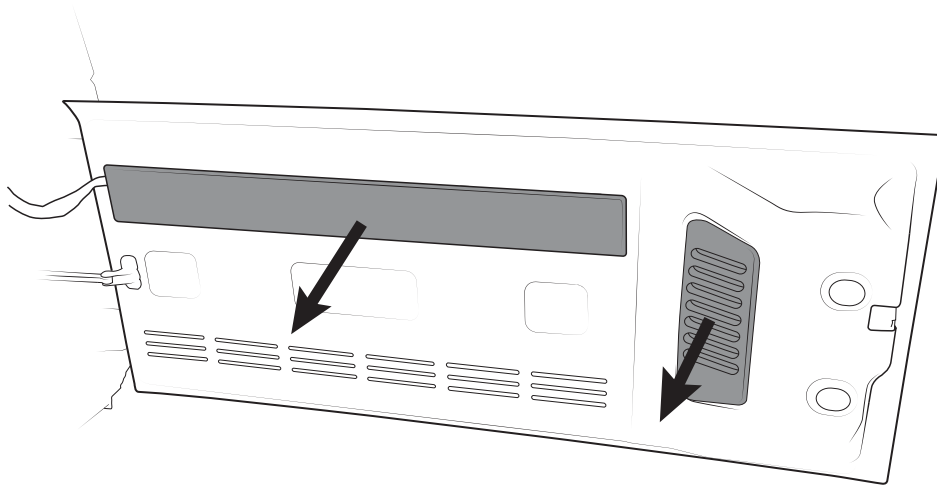

Figure 1
2. Open the tailgate and remove the plastic trim panels from the inside (fig. 1).